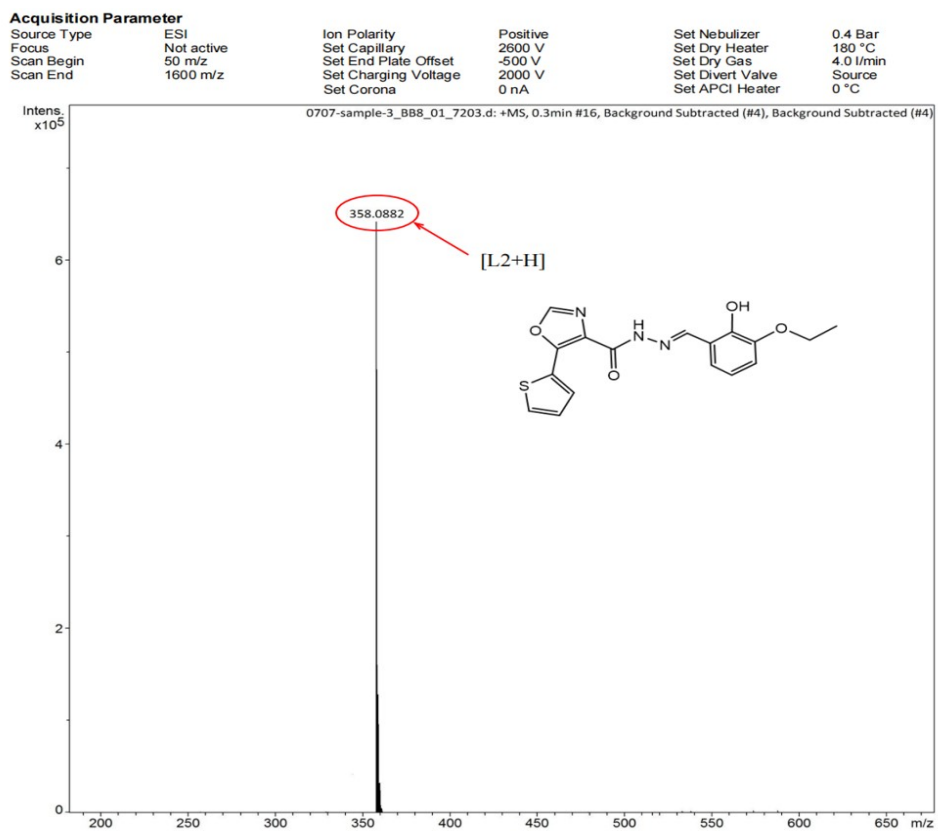

Fig. S8. ESI-MS spectrum of the probe L2.
8. **Figure S8.** ESI-MS spectrum of the **L2**.